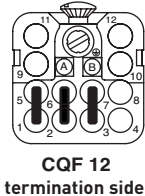

Figure 1
1. Cut and strip the wires as shown in Figure 1.